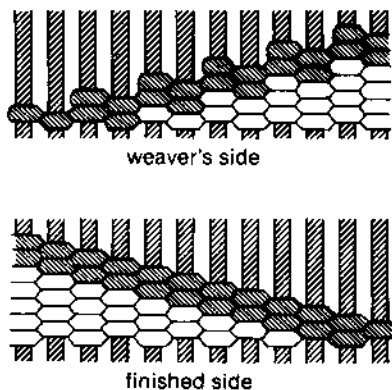

FIGURE 4. "Jan's Law"
(4) 'JAN'S LAW-This was a rediscovery by one of the people, Jan Marie Dubois, working on the Judy Chicago 'Dinner Party' project. The law states that: 'If a smooth diagonal line which is curved or straight is to be developed, one proceeds as follows: when weaving the decreasing color make certain that the last warp thread of a turn for a pass is covered.' See Fig. 4.